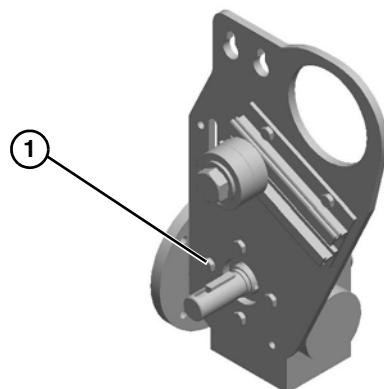

Figure 35
10. Install gear reducer to mounting bracket and tighten bolts (Figure 35, item 1) to 110 in-lb (12 Nm).